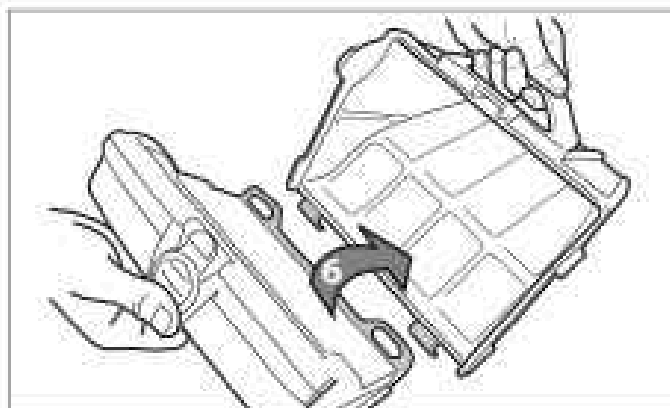

Figure 22. Remove Filter Canister
6. Separate the filter canister from the filter support (6), as shown in Figure 22.